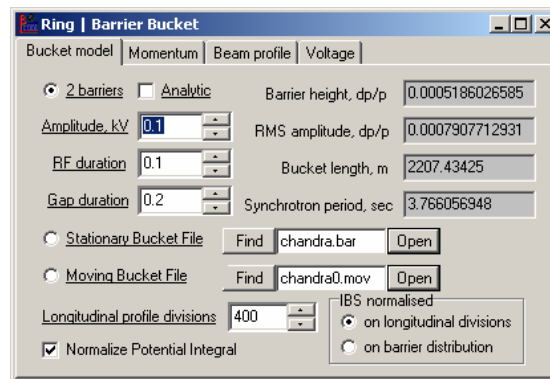

Fig.4. Parameters of BB.
Parameters of barrier bucket (BB) are defined in Form (Fig.4). Three options of BB model are realized in BETACOOOL: 2 square barriers, stationary bucket and moving bucket. Position and duration of BB are defined in the unit of circumference in the range $-0.5 < s \leq 0.5$, amplitude of buckets are given in volts.
Stationary Bucket File (Fig.5a) has two columns: first is position of barrier in the unit of circumference, second is amplitude in volts. First barrier always start from position -0.5 and file can not have position -0.5. If barrier position 0.5 is not included in the file it means that last barrier has position 0.5 with zero amplitude. Red line (Fig.3b) is amplitude distribution, blue line is integral of barrier amplitudes [kV*m]. It can be normalized on the maximum amplitude of barriers if **Normalize Potential Integral** options is chosen (Fig.4).
The particle distribution and barrier positions in the longitudinal phase space are shown on Fig.6a. The longitudinal profile (Fig6b, green line) is calculated in accordance with parameter **Longitudinal profile divisions** (Fig.4), red line is the average particle density in each barrier, black line – integration of particle along longitudinal coordinate. Intrabeam scattering heating rates are calculated via longitudinal density of particle which can be chosen in parameter **IBS normalized** (Fig.4): **on longitudinal divisions** means that IBS is calculated in accordance with particle density with longitudinal divisions, **on barrier divisions** – in the accordance with particle density in barrier region.